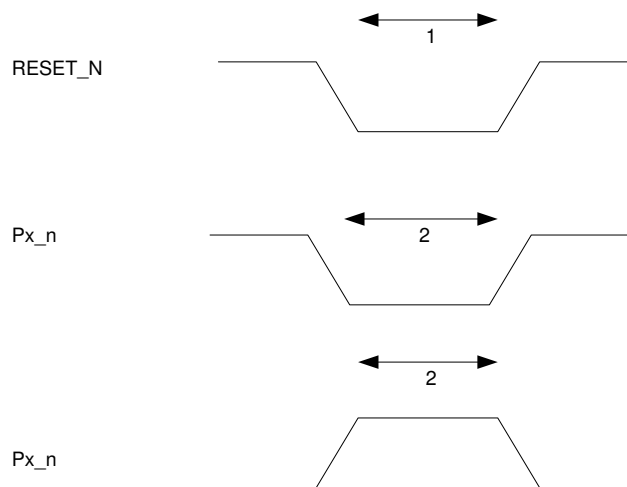

Figure 4: Control Inputs AC Characteristics
| RESET_N low width   | 250                 |     |      | ns   | See item 1, Figure 4. This is the shortest pulse that is guaranteed to be recognized as a reset pin request.Note: Shorter pulses may be recognized but will not lead to complete reset of all modules within the chip. |
| Interrupt pulse width   | t SYSCLK |     |      |      | See item 2, Figure 4. This is the shortest pulse that is guaranteed to be recognized as an interrupt request. In PM2/3 the internal synchronizers are bypassed so this requirement does not apply in PM2/3.                       |